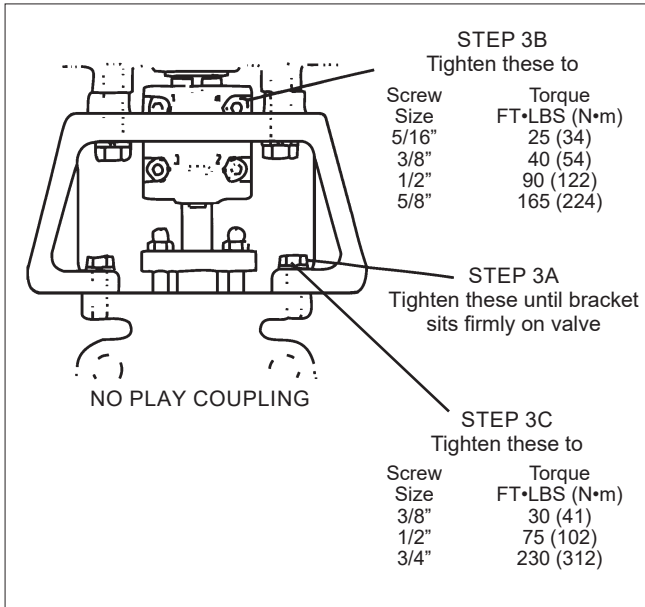

Figure 16
4. Lower actuator and bracket onto valve while engaging actuator stem driver into coupling. Tighten screws just enough to firmly mate bracket to valve. This should allow bracket to shift, allowing the coupling to align the valve and actuator shafts (See Figure 16, Step 3A.)
5. Tighten the no-play coupling screws to torques shown in (Figure 16, Step 3B). Use alternating sequence shown.
7. Fully tighten the screws holding the bracket to the valve, as shown in **(Figure 16, Step 3C)**.
8. Recheck no-play coupling screw torques, using the torques in **(Figure 16, Step 3B)**. Use alternating sequence shown.